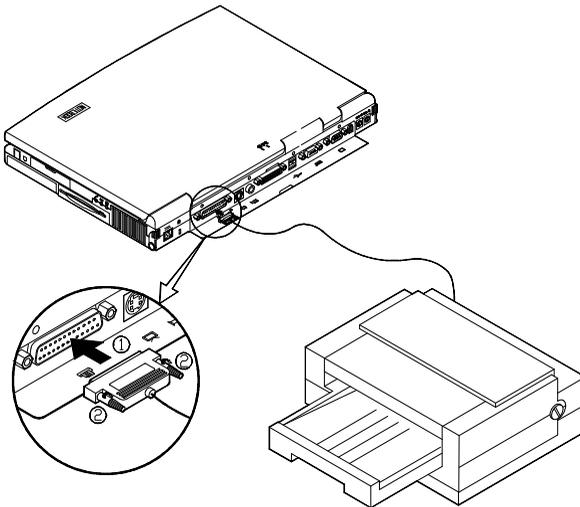

Figure 2-21
- 2** Connect the signal cable of a printer to the parallel port on the computer (do ①) and tighten the screws of the connector (do ②) (Figure 2-21).